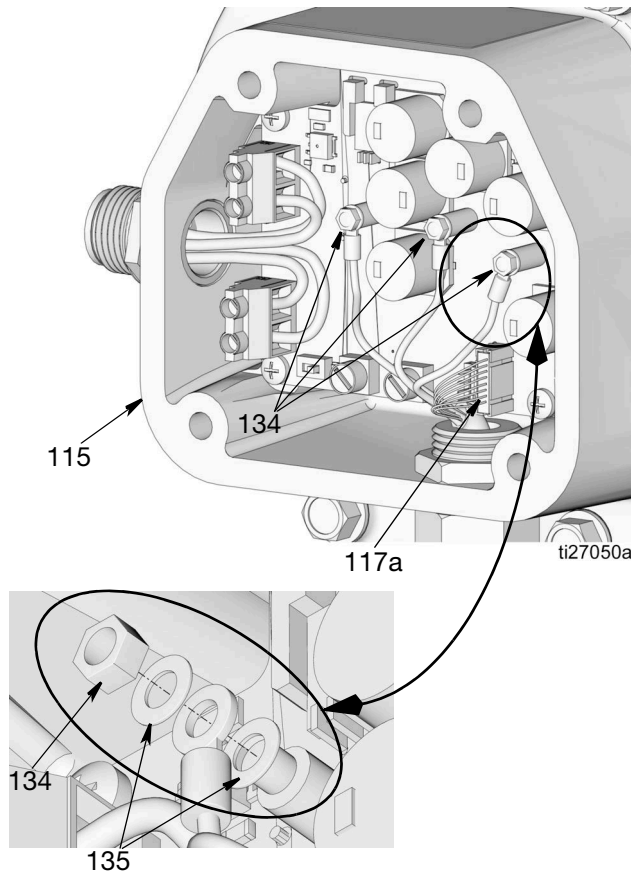

FIG. 56
- Remove the nuts (134), as shown in FIG. 56. Remove the washers (135) and the motor wires from the terminals. Save these parts for reassembly.
- Disconnect the sensor cable (117a) from the motor control board (FIG. 56).